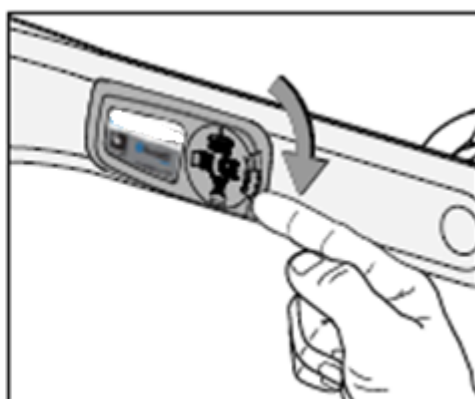

FIG 6
6. Once the battery cover has been properly inserted and is even with the surface of the power meter, use your finger to rotate the door back to the locked position as illustrated in **FIG 6**.